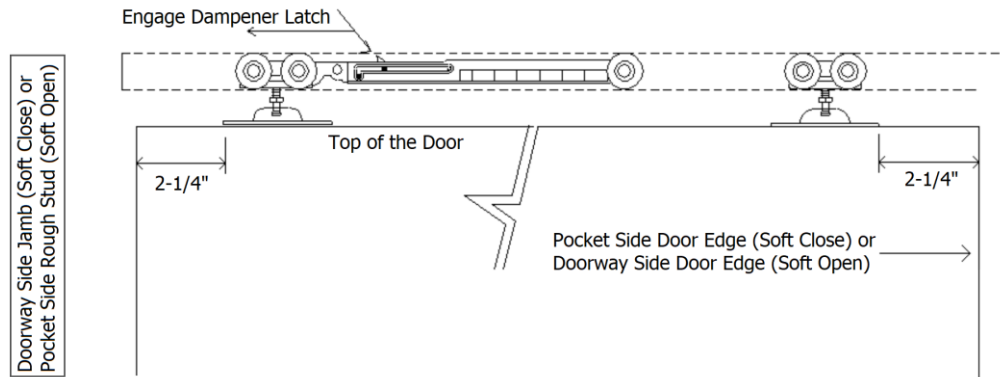

Figure 2
- Engage the dampener latch by pushing it towards the 4-wheel roller end of the soft close dampener until engaged. See Figure 2.
- Insert the soft close dampener with the 2 idle wheel end first into the doorway track end. See Figure 2.
- Insert the soft close dampener with the 4-wheel roller end first into the doorway end of the track. See Figure 2.